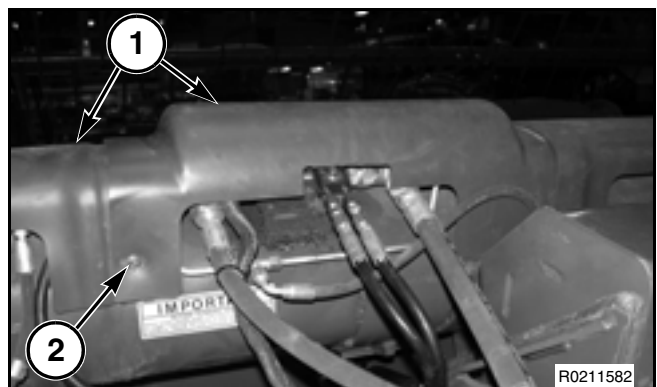

FIG. 53
FIG. 53: Shielding (1) along the top of the header frame to protect the hydraulic lines and the electrical harness can be removed by removing the flanged screws (2).